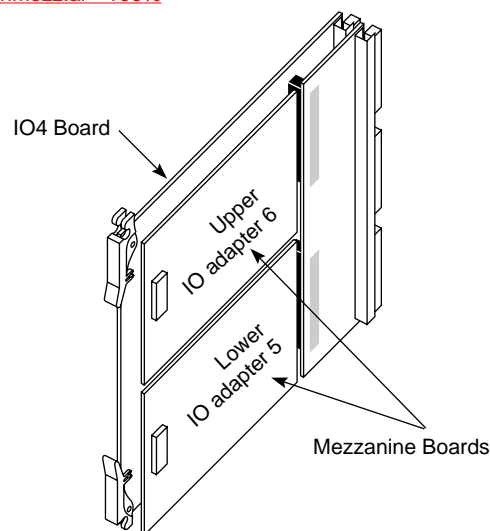

Figure 2-10 Upper and Lower Mezzanine Slots on IO4 Boards
- If the system has only one IO4 board, this is the location for the mezzanine board. The mezzanine board may be installed in either the upper or lower position on the IO4 board. Figure 2-10 illustrates an IO4 board with mezzanine boards in both slots.